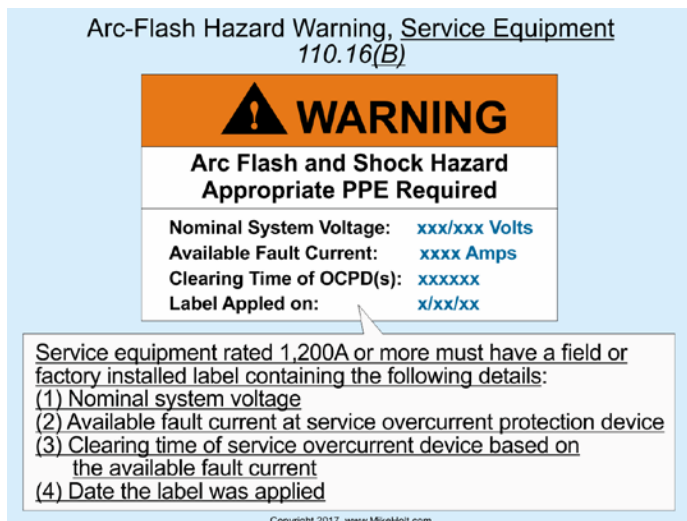

Figure 110-24
(B) Service Equipment Available Fault Current Label. Service equipment rated 1,200A or more must have a field or factory installed label containing the following details and have sufficient durability to withstand the environment: Figure 110-24